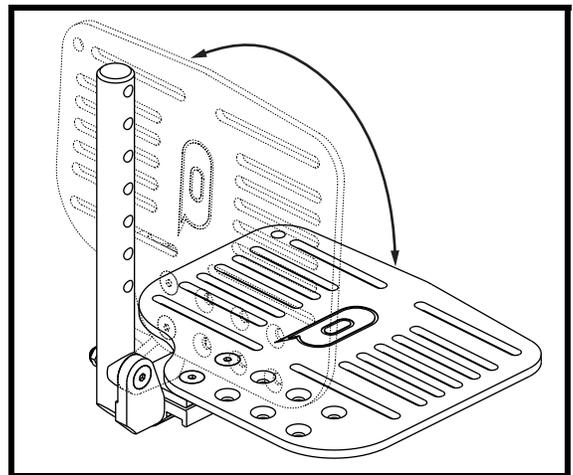

Figure 28. Foot Plate Flip Up Adjustment
The angle adjustable foot plates have two adjustments: angle and depth. The depth can be adjusted to four (4) positions in 1-in. (2.54-cm) increments. If the position of the foot plate adapter is reversed, an additional 0.75 in. (2 cm) of depth can be achieved at the most forward and most rearward positions. See **figure 28**. The foot plates can also be flipped up for ease of transfer. See **figure 28**.